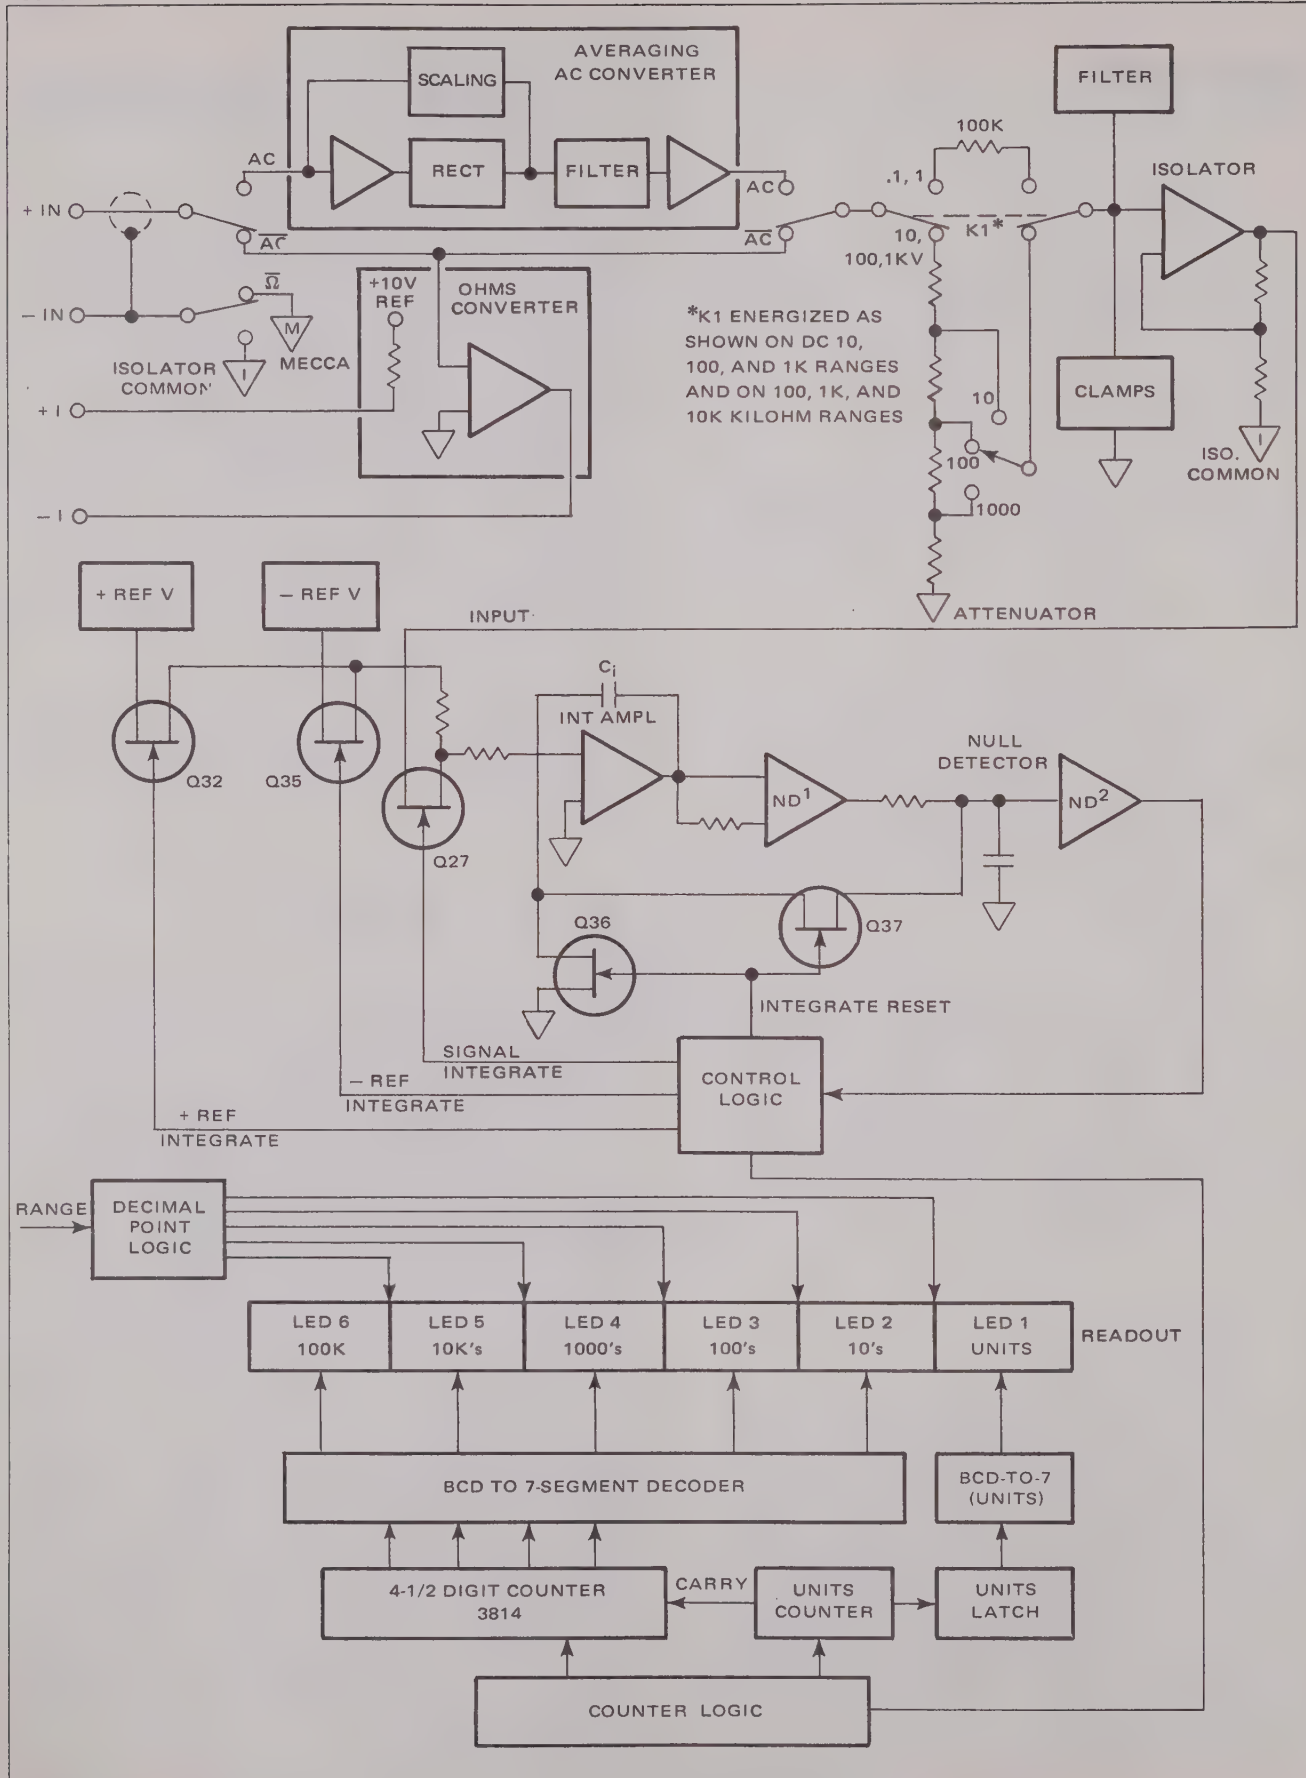

Figure 4.1 - 5000 Block Diagram
4.2 This section describes the operation of the main circuits in the Model 5000 DMM, shown simplified in the block diagram of figure 4.1. Drawings included are provided as a supplement to the complete drawings found in Section 6.